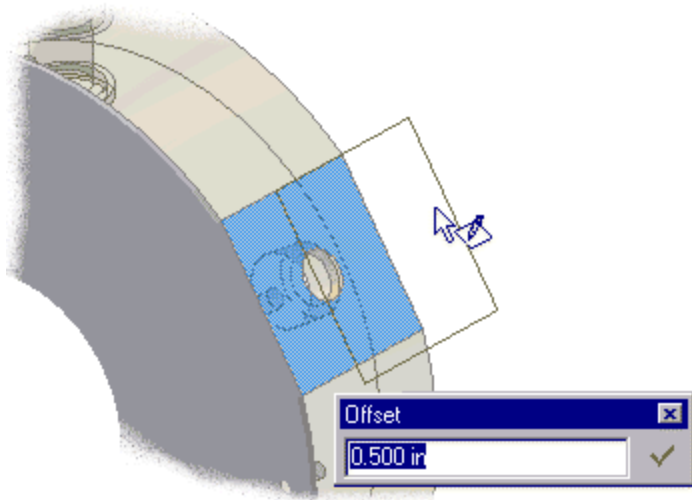

Figure 15: Offset plane creation.
2. Click the Sketch tool and then click and drag off the ring face as shown in Figure 15. Offset the plane 0.500 inches from the ring face.